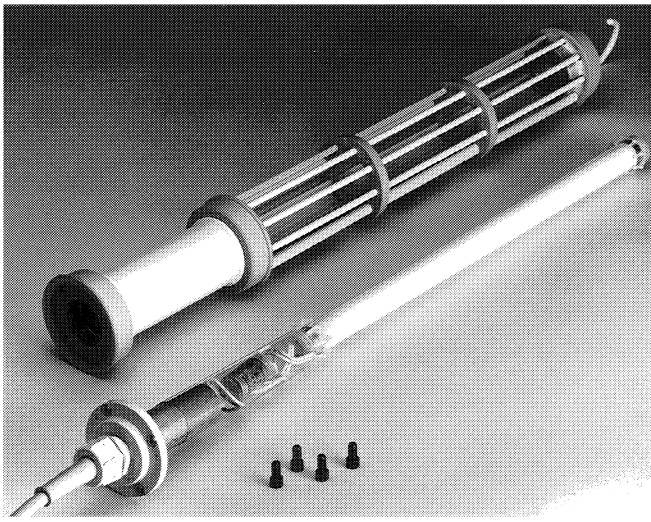

Figure 3
4. Replace necessary parts with similar type parts. (See figure 3)